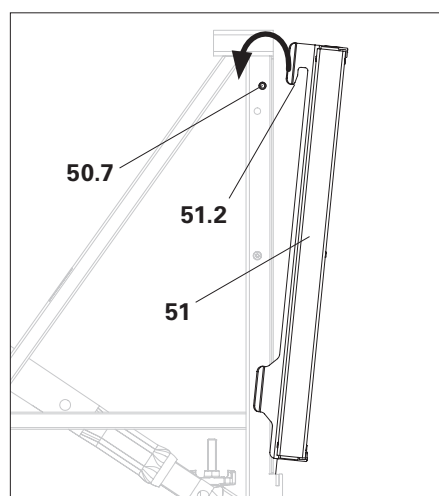

Fig. B3.05
3. Lift the Scaffold Deck MXK over the retaining bolts (50.7), press to the Bracket and lower. (Fig. B3.05) → Scaffold Deck MXK is now mounted.
Both hooks (51.2) of the Scaffold Deck MXK must be hooked in on both sides above the retaining bolts (50.7). (Fig. B3.05)